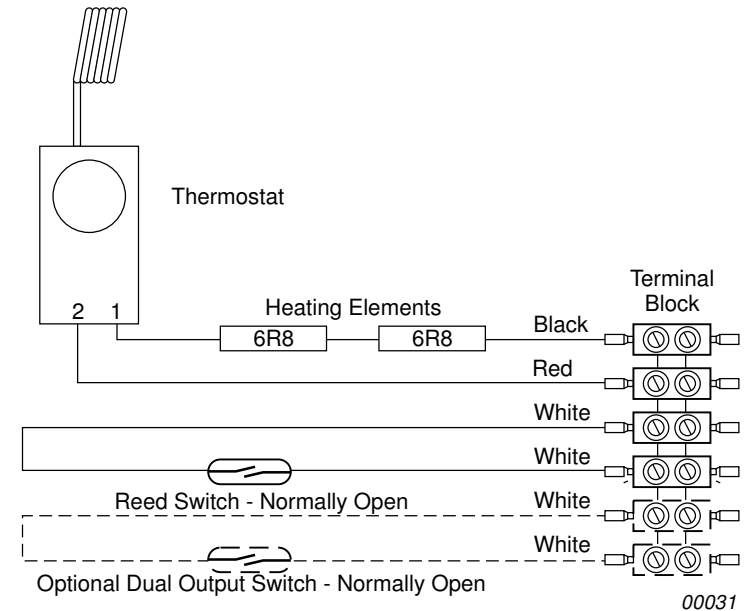

Figure 4: Reed switch and heater connections for standard versions
- Connect the free ends of these cores to the counting device (see Figure 4 and Chapter 6).
- Connect the free ends of these cores to the power transformer in the hut or enclosure (see Figure 4).
4. Connect the free ends of these cores to the first counting device (see Figure 4 and Chapter 6).
6. Connect the free ends of these cores to the second counting device (see Figure 4 and Chapter 6).
8. Connect the free ends of these cores to the power transformer in the hut or enclosure (see Figure 4).